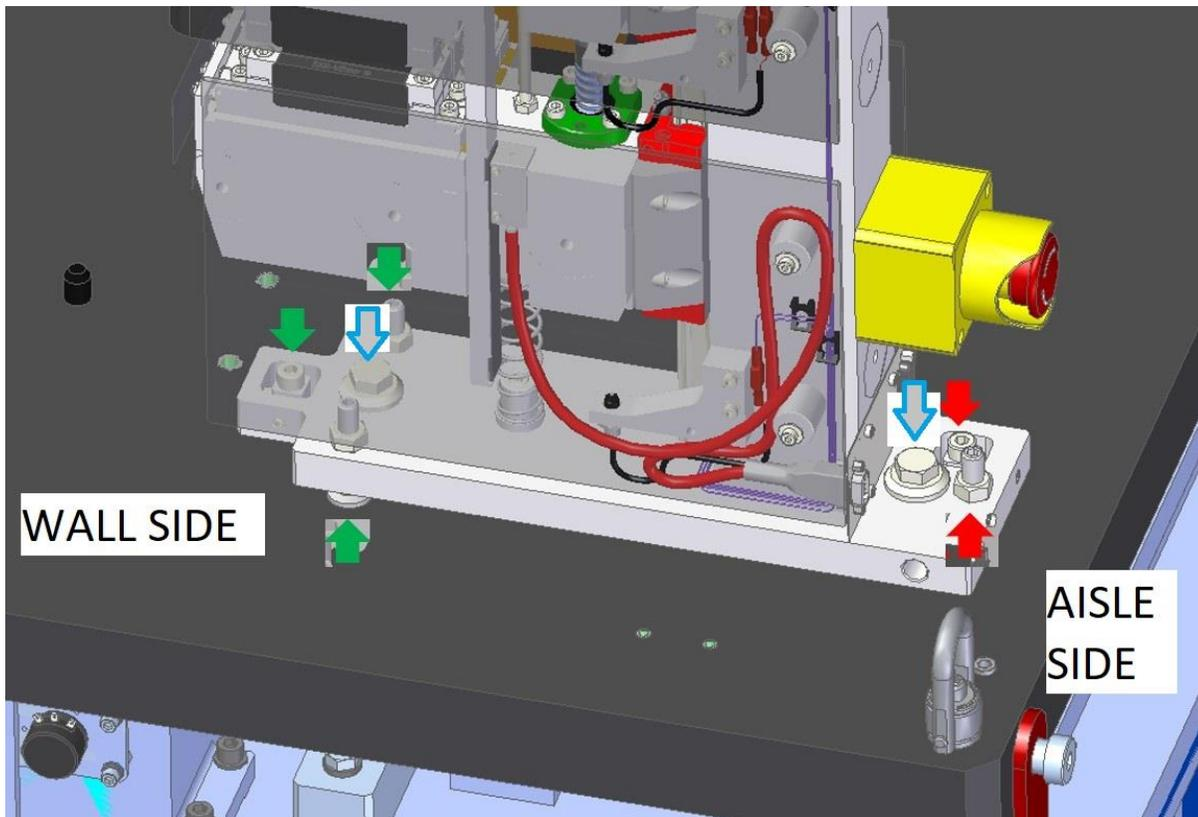

Figure 10: Interspace mounting screws - tighten to 8 Nm torque
- First place the adjustment post, with alignment set screws on the aisle side (red arrows); then place the adjustment post and alignment set screws on the wall side (green arrows). Lastly, tighten the two lockdown screws (blue arrows). See Figure 10.